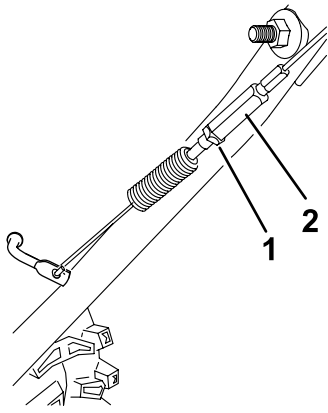

Figure 37
5. Loosen the jam nut (Figure 37).
6. Loosen or tighten the turnbuckle that adjusts the tension on the cable (**Figure 37**).